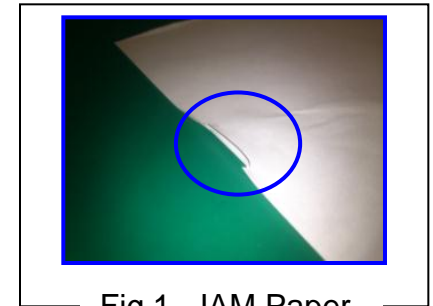

Fig.1 JAM Paper
- a. If JAM paper or printout paper is like a Fig.1, replace the Roller of the Primary Feed.